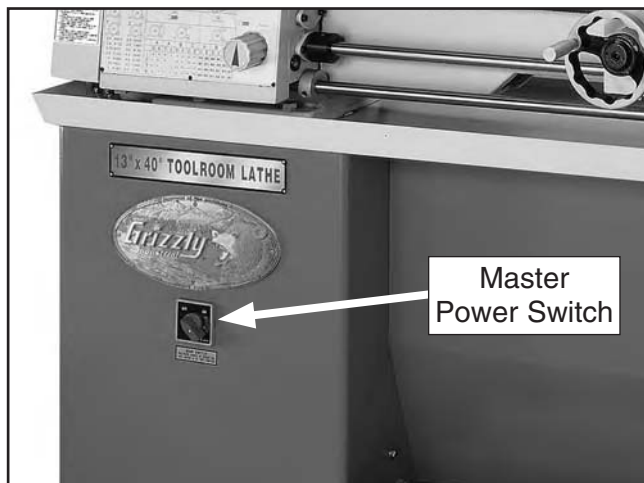

Figure 19. Location of the master power switch.
3. Make sure the master power switch is turned **OFF** (see **Figure 19**).